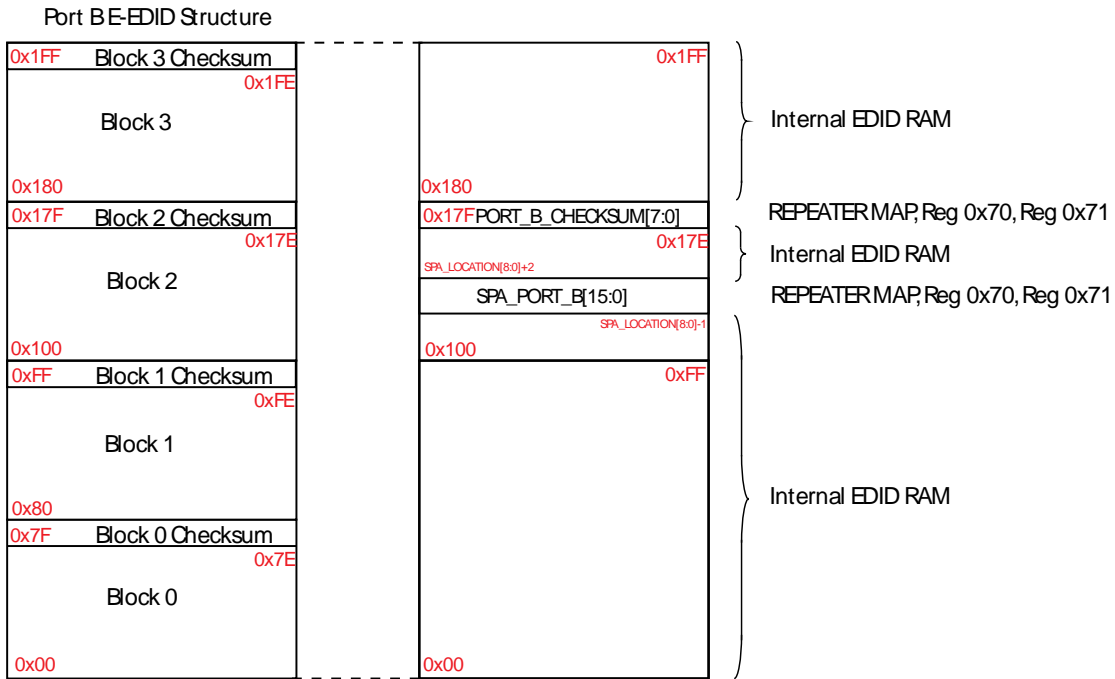

Figure 68: Port B E-EDID Structure and Mapping for SPA Located in E-EDID Block 2
- Figure 68 – SPA located in E-EDID block 2